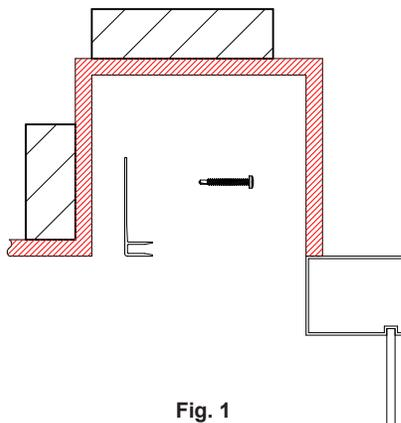

Fig. 1
- 1** Install optional hanger along length of pocket ensuring seams between lengths of hanger are tight and flush. (Fig. 1) Temporarily installing a small piece of closer at joint will aid in leveling the two pieces of hanger.